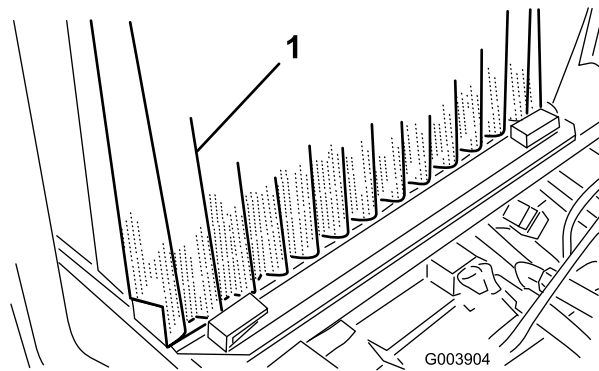

Figure 67
3. Loosen the clamps and pull up on the screen to slide it out of the mounting tracks (Figure 67).
5. Slightly raise the oil coolers and pivot them forward (Figure 67).